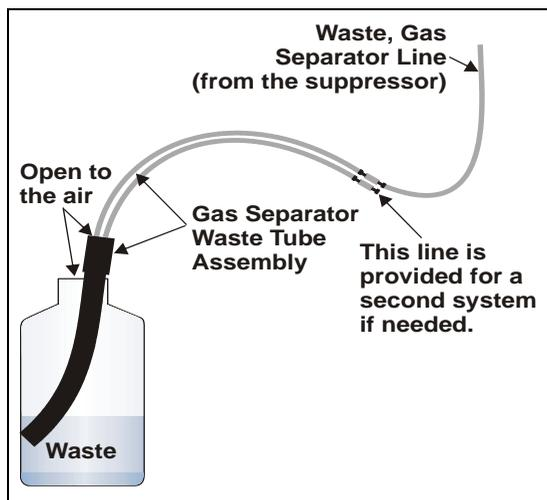

Figure B-22. Gas Separator Waste Tube Installation
2. Connect the **WASTE, GAS SEPARATOR** line from the suppressor to one of the 3-mm (1/8-in) ID white Teflon lines on the gas separator waste tube assembly (see Figure B-22).
DO NOT CAP THE WASTE CONTAINER: The ICS-1500, Atlas Electrolytic Suppressor, and Self-Regenerating Suppressor (SRS) use an electrolytic process that results in the production of small amounts of oxygen or hydrogen gas. To ensure that the gas is not trapped in a closed container and allowed to concentrate, install a 1.3-cm (0.52-in) ID black gas separator waste tube (P/N 045460) in an uncapped waste container. Connect the Waste, Gas Separator line to the waste tube (see Figure B-22).